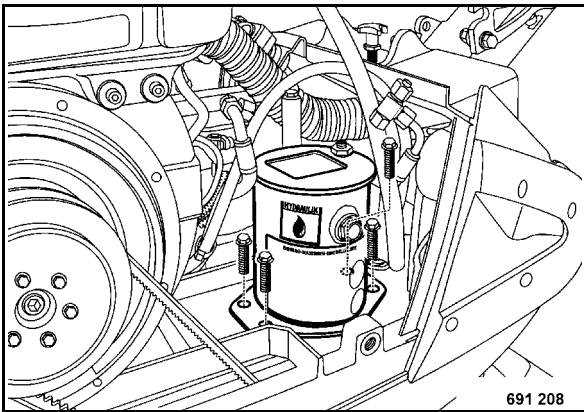

Fig. 78
- Unscrew and empty the hydraulic tank (Fig. 78).